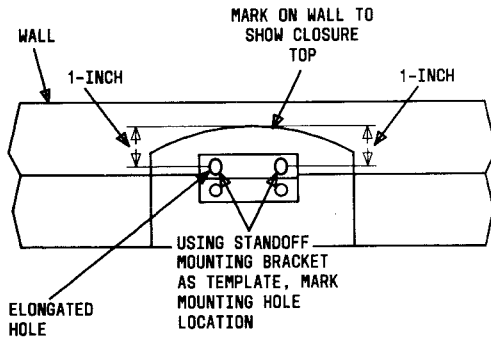

Fig. 6—Marking Mounting Hole Location
3.04 Remove the closure; then, using the standoff mounting bracket as a template, mark two mounting holes 1 inch below the top of the closure mark (Fig. 6).